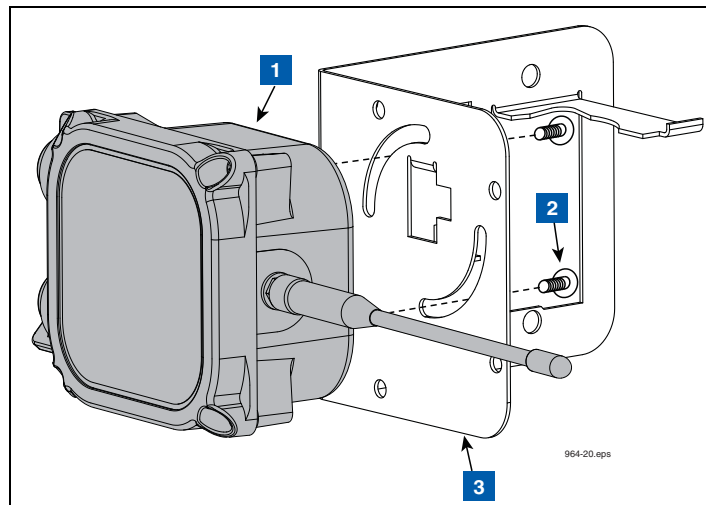

Figure 24. Attaching Transmitter To Battery Support Bracket
3. Using two taptite screws from the kit, attach the Transmitter housing to the side of the battery support bracket that has the two circular slots (see Figure 24). Do not tighten screws at this time.
#### LEGEND FOR NUMBERED BOXES IN Figure 24
7. Attach the battery housing/bracket assembly to the back mounting surface of the Universal Enclosure using two #10 taptite screws from the kit (see item 4 in Figure 24).